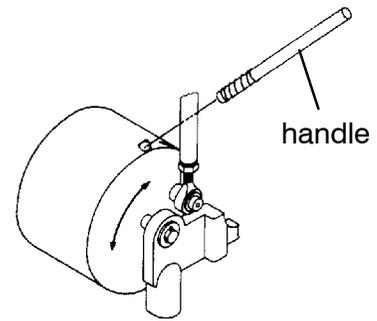

Figure 1-7.
*3000 and 4000 amp. F–design*            See Figure 1-7.